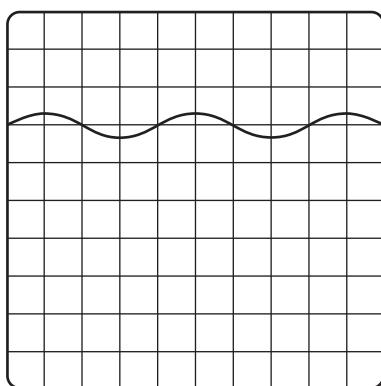

Fig. 12a
- (b) When a 230V AC mains power adaptor is tested using an oscilloscope the output voltage appears as shown in Fig. 12a.